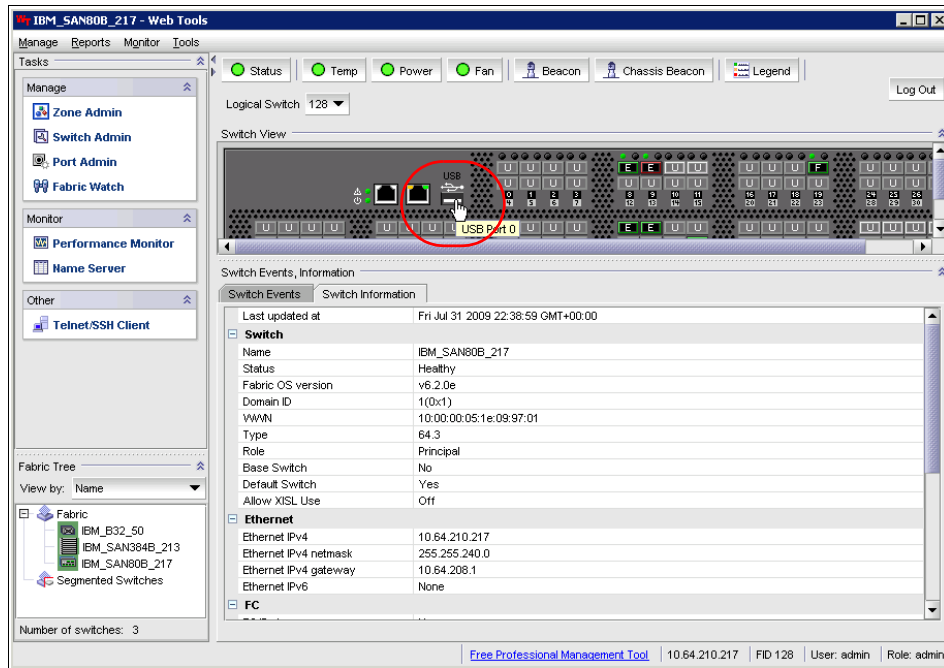

Figure 12-51 Configuration backup to the USB device
1. Plug in the USB device to the USB port. Open Web Tools, and click the USB icon, as shown in the Figure 12-51.